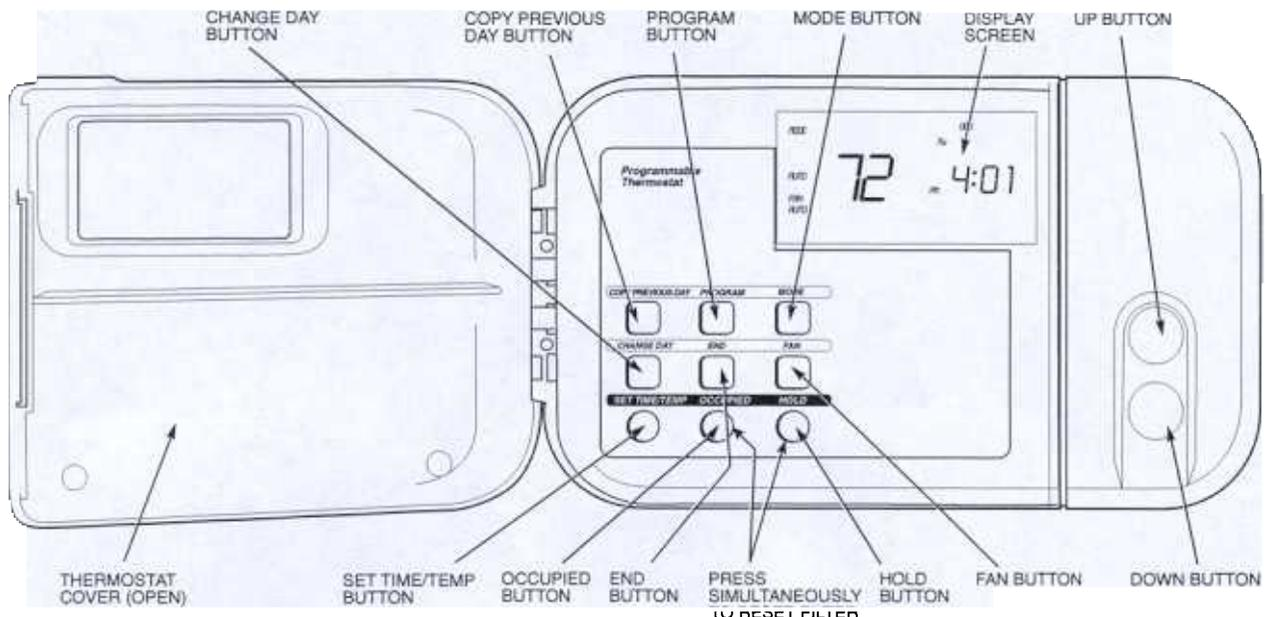

Fig. 2 — Thermostat Display and Programming Buttons
**Thermostat Programming Buttons and Operation** — The thermostat has programming buttons which are used to change the set points of the thermostat, set the modes, and set program schedules. The programming buttons are accessible from underneath the thermostat cover. To access the programming buttons, pull on the hinged thermostat cover. See Fig. 2. The programming buttons are: Copy Previous Day, Program, Mode, Change Day, End, Fan, Set Time/Temp, Occupied, and Hold.